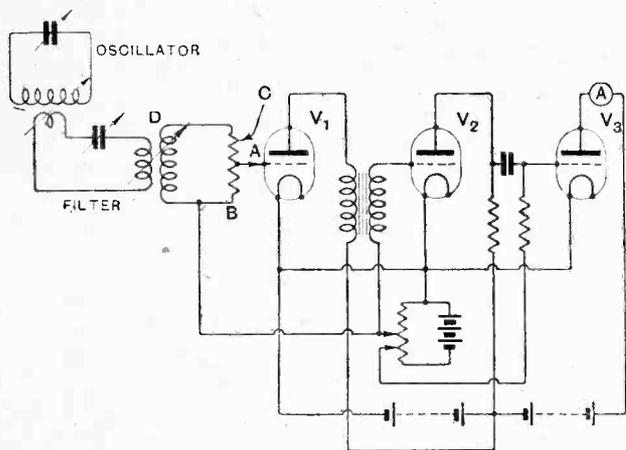

Fig. 21.—Circuit used to determine transformer curves.
In the experimental work associated with the measurement of amplification curves of the iron-cored transformers described in Parts I to IV, a valve V_2 is resistance coupled to a rectifier, as in Fig. 21. (This is reproduced from Fig. 5, Part II, November 17th issue.) The effect of this valve on the performance of the 1.5 mil iron transformers Nos. 1 and 2 will now be discussed. This course was pursued during the experiments to show the profound influence of inter-electrode capacity at supersonic frequencies, especially with transformers the natural self-capacity of which was small.
Neglecting the filament to anode capacity, the equivalent circuit on the secondary of the transformer of Fig. 21 is shown in Figs. 22, 23. C_2 is the filament to grid capacity, including the capacity of the valve holder and
$C_3 + C_2$ is placed across the secondary of the transformer. The measured values of C_1, C_2, C_3 for valve V_2 of Fig. 21 taken in the valve holder are given in Table XI.
TABLE XI.—INTER-ELECTRODE CAPACITIES OF VALVE V_2 OF FIG. 21.
Fig. 23.—Equivalent circuit to input impedance of valve V_2 of Fig. 21. $C_4 = (\eta + 1)C_3 + C_2$ where $C_2 = F$ to G capacity of $V_2, C_3 = A$ to G capacity of $V_2, r =$ resistance which is positive in value. The self-capacities of the windings have been omitted.
37 micromicrofarads was due to the valve V_2 of Fig. 21. Hence the equivalent secondary capacity of each transformer when the winding is quite free is $C = 62 - 37 = 25$ micromicrofarads. The various data associated with the transformers under the two conditions, (1) the secondary winding "loaded" by the input impedance of V_2 of Fig. 21, (2) the secondary winding free or unloaded, are arranged in Table XII.
Under the heading "Transformer Design" in Part III, November 24th issue, we quoted results obtained with a transformer having staggered primary and secondary windings. This construction was tried to see whether the effective primary capacity could be minimised by reducing the mutual capacity between the primary and secondary windings. Using a 3/1 transformer with the same core and turns as No. 1¹, and with six sections on each winding, the effective primary capacity was 480 micromicrofarads, as compared with 560 micromicrofarads for the normal construction. Now, the inter-electrode capacities of V_2 in Fig. 21 accounted for 335 micromicrofarads (the difference between row 1, columns 4, 5, Table XII), so that the effective primary capacity of the staggered windings is $470 - 335 = 135$ micromicrofarads. Dividing this by the square of the ratio, we obtain the equivalent secondary capacity $C = 15$ micromicrofarads, as against 25 micromicrofarads for the normal construction, a reduction of 40 per cent. Unfortunately, this transformer has been mislaid, and I am unable to check the foregoing result experimentally. The difference seems rather larger than one would expect, but, as we have already seen from Table VI, Part III, page 716, of the November 24th issue, the mutual capacity of the standard or normal transformers is large compared with the self-capacity. In making measurements on the effective primary capacity, the conditions should be such that the capacity added due to the valve (in this case V_2) is relatively small. In practice, unless the valve capacity is neutralised, the advantage of reduced capacity due to staggered windings will not be utilised to any degree.